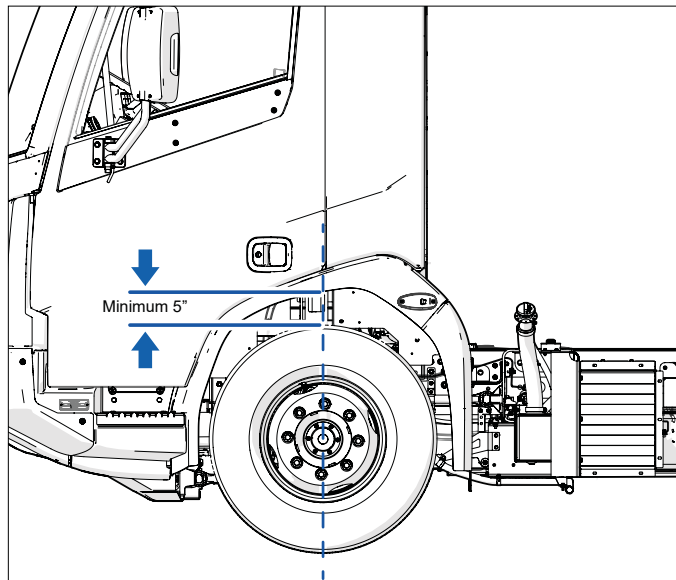
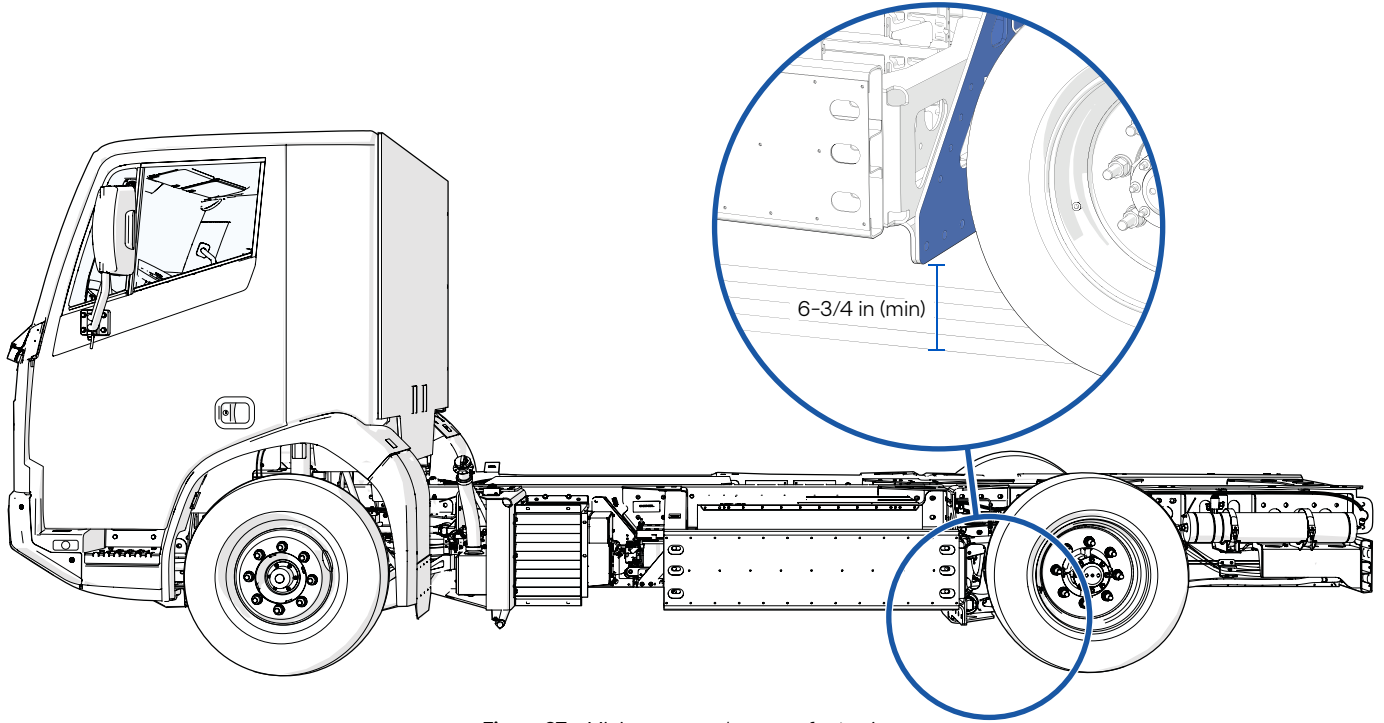

Figure 26 - Minimum front ride height for towing
Figure 27 - Minimum rear clearance for towing
- If the hydraulic suspension is non-functional and the distance between front tire and fender is less than 5 in (13 cm) (**Figure 26**), a flatbed platform towing is required.
- If the hydraulic suspension is non-functional and the distance between front tire and fender is 5 in (13 cm) or more (**Figure 26**), towing by the front axle is allowed. Confirm there is at least 6.75 in (17 cm) between battery bracket and ground (**Figure 27**).